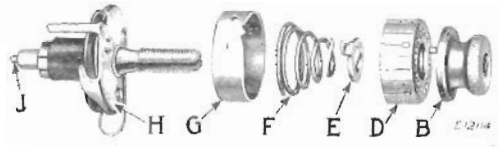

Fig. 45
washer (E, Fig. 45), tension spring (F), indicator (G), tension releasing pin (J) and tension disc assembly (H) which includes the thread take-up spring, thread take-up spring thread guard and two discs.